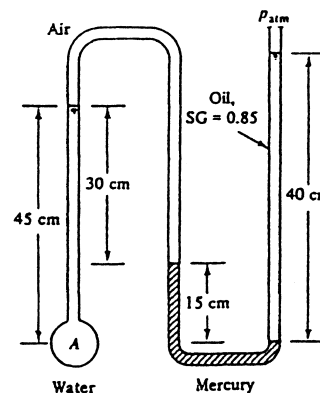

Fig. P2.45
**2.45** Determine the gage pressure at point A in Fig. P2.45, in pascals. Is it higher or lower than  $P_{\text{atmosphere}}$ ?